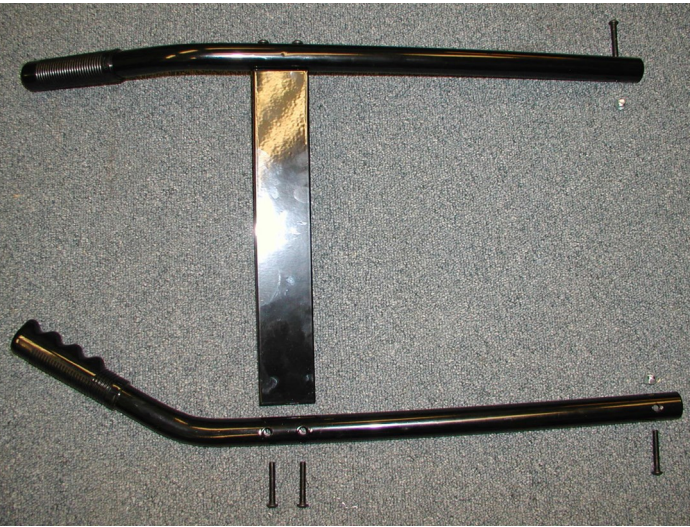

Figure 2
Assembly the upper handles and cross support, as shown below, using the hardware provided. Hand tighten the (4) screws thru the handles to the cross support. Slide the assembly onto the posts thru the base cover. Use the (2) screws and nuts provided to secure the assembly to the base. Now, tighten the (4) screws for the cross support. (See Figure 2)